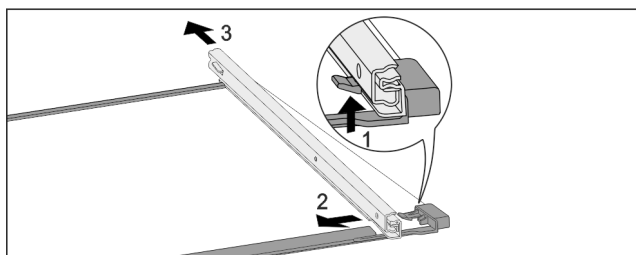

Fig. 151 Glass shelf with rails
- ▶ Push up front click-in hooks. Fig. 151 (1)
- ▶ Move the pull-out rails to the side Fig. 151 (2) and to the rear Fig. 151 (3).